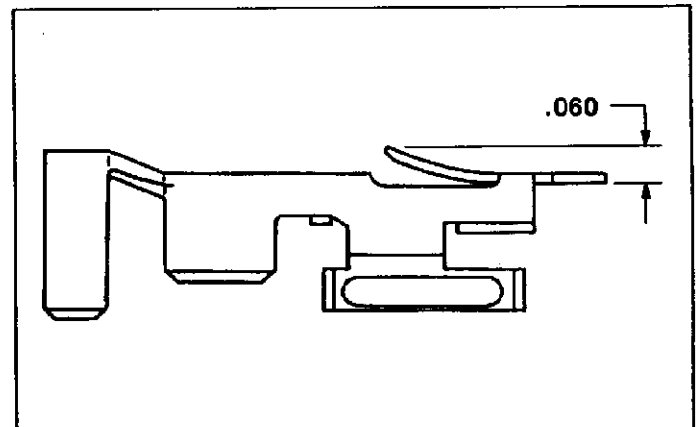

Fig. 4
7. Using a micrometer or vernier caliper, measure reset dimension of locking lance. Dimension should measure  $.060 +.010/-.005$  as shown in Figure 4.